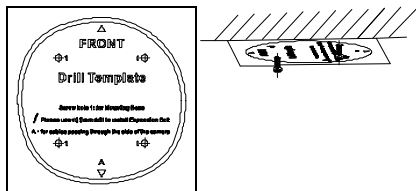

Figure 2-44 Attach the Drill Template
3. Insert two PM4×10 screws into the ceiling, as shown in Figure 2-44.